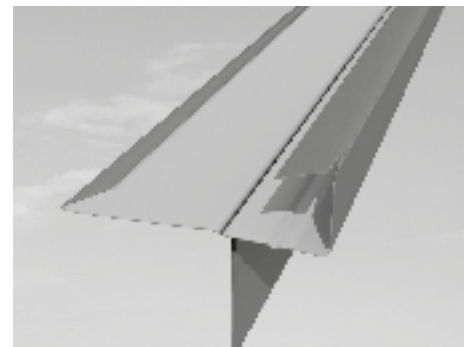

Fig. 22 – Insert upslope trim into lower trim section
- 7 Trim the inside corner of the trim. Make a small triangular cut into the top lap of the trim and press down slightly (Fig. 22). This will allow the upper length to push inside the lower length.